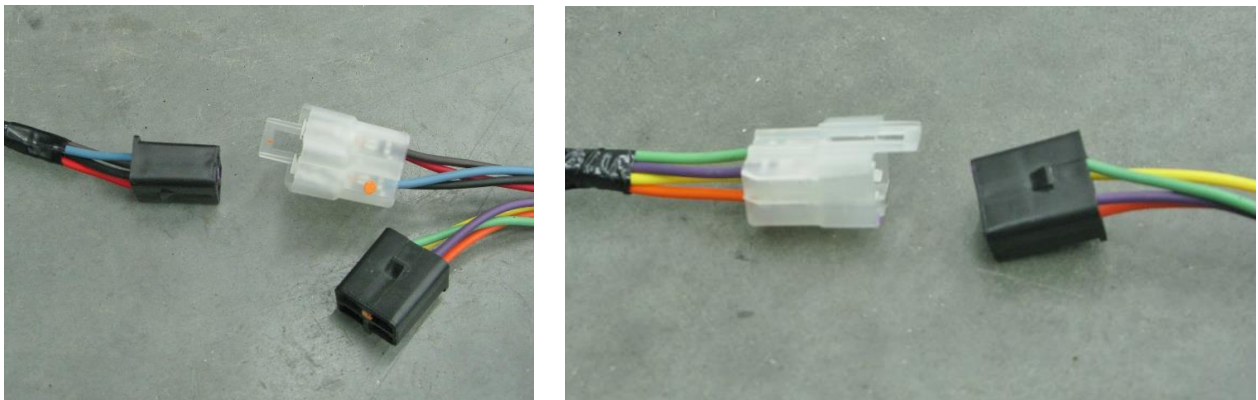

Figure 36 – Plug in Module to Harness
37. Once the module is secured, plug the black connector from the module into the clear connector with the corresponding orange, yellow, green, and purple wires. Plug the clear connector from the module into the black connector with the corresponding red, black, blue, and brown wires on the new harness (Figure 36).